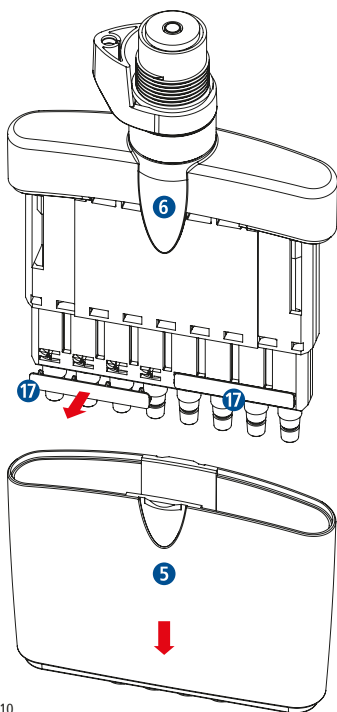

Fig.10
- Pull both clips **17** down and rotate the lower housing through 180° (Fig. 10).